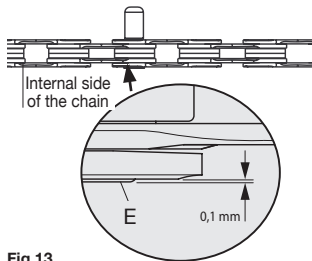

Fig.13
In order to minimize the possibility of damaging the chain irreparably, **DO NOT TIGHTEN** the tool beyond the beat. Let the bushing **ULTRA-LINK 5-CN-SR700** (E) protrude 0.1 mm from the inner side of the chain (**Fig. 13**).